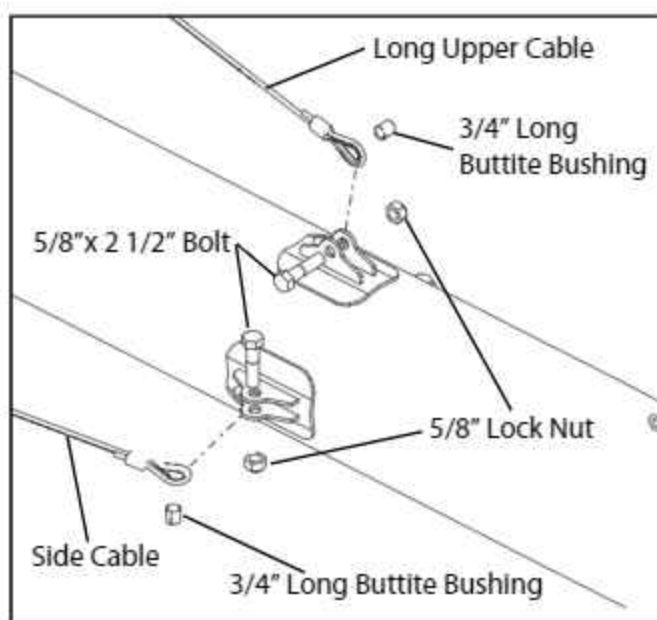

FIG. 3-11. Truss Cable Mounting
5. Attach the looped end of the three 43' truss cables to the discharge end of the auger tube, as shown in Fig. 3-11.
5. Attach the looped end of the three 55' truss cables to the discharge end of the auger tube, as shown in Fig. 3-11.
6. Attach the looped end of the three 62' truss cables to the discharge end of the auger tube, as shown in Fig. 3-11.